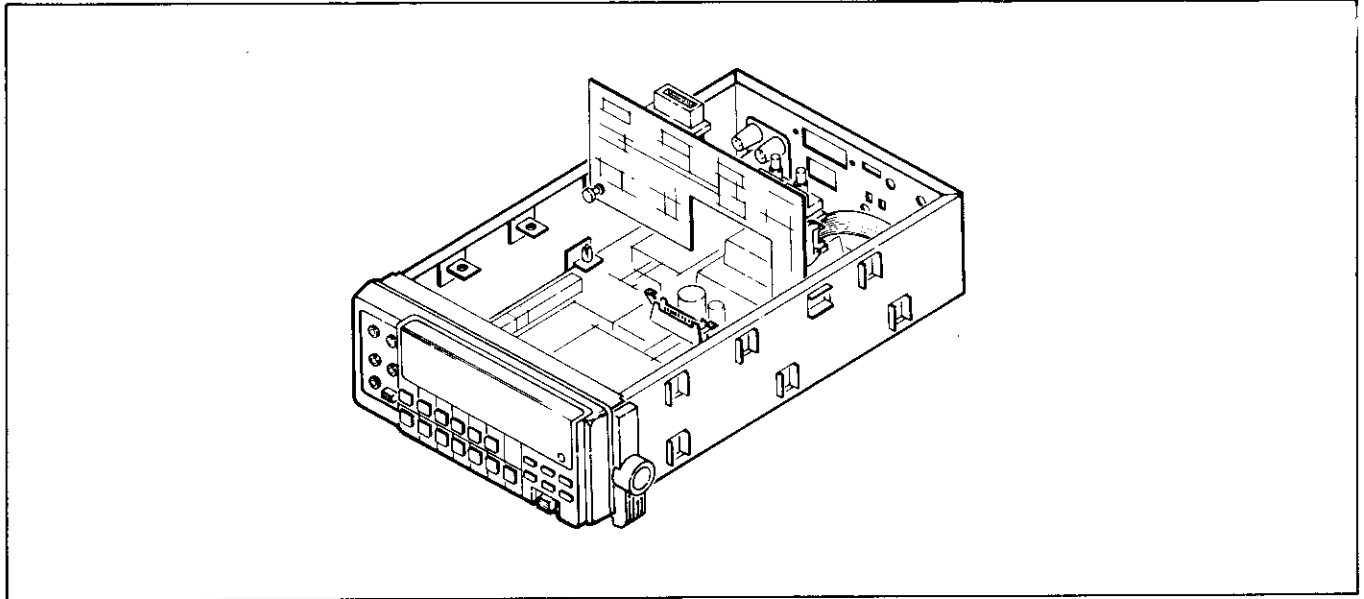

Figure 6-20. Option -05 Service Position
3. Position the IEEE-488 Interface PCA vertically as shown in Figure 6-20 and latch it in place by pressing the two nylon latches into the mounting supports specially provided on the chassis.